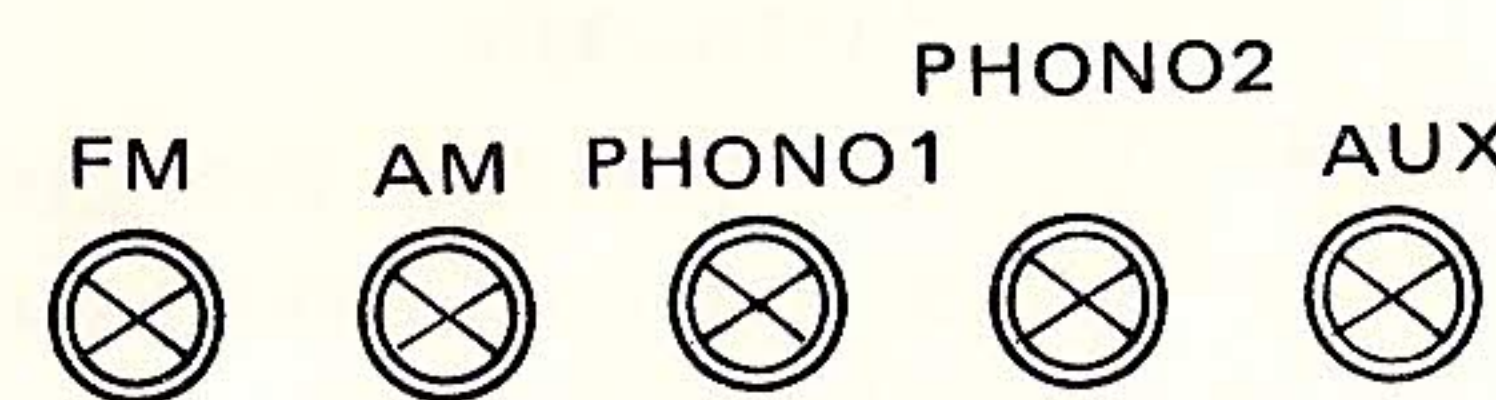

Fig. 11 Function Switch
- 1) Set the FUNCTION switch to FM (Fig 11).
- 1) Set the FUNCTION switch to AM (Fig. 11).